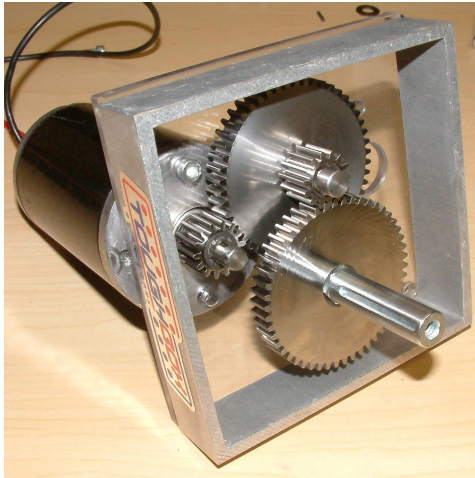

Fig. 9
Step 9: Place the Extrusion Cover over the assembly as shown in Fig.9. Apply grease to gear and meshes, using grease pack. It is OK to use additional heavy grease.